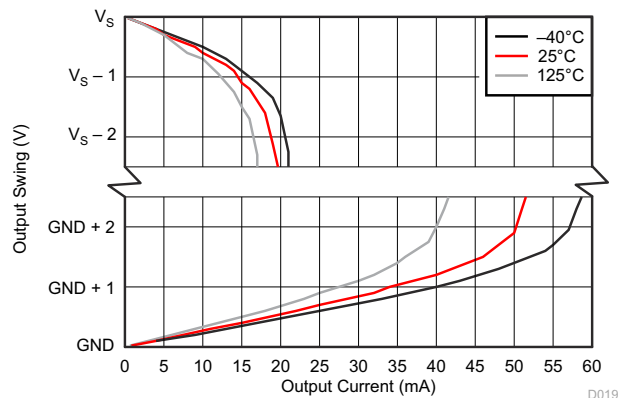

FIG 7-19. Output Voltage Swing vs. Output Current
(3) See Figure 7-19.
(4) Swing specifications are tested with an overdriven input condition.